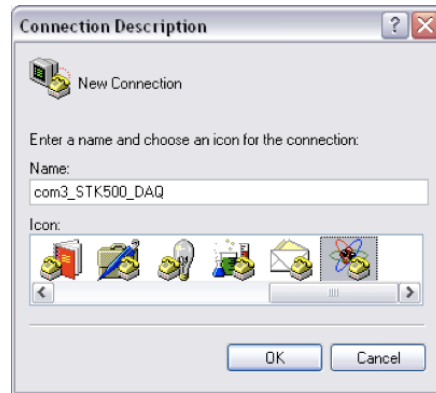

Figure 4.29 Screenshot of the Connection Description window used by HyperTerminal to establish a new connection.
- 4.3.2** Type a Name for the HyperTerminal session, say “com3_STK500_DAQ”, and select an Icon within the “Connection Description” window as shown in Figure 4.29. Click “OK” to proceed.